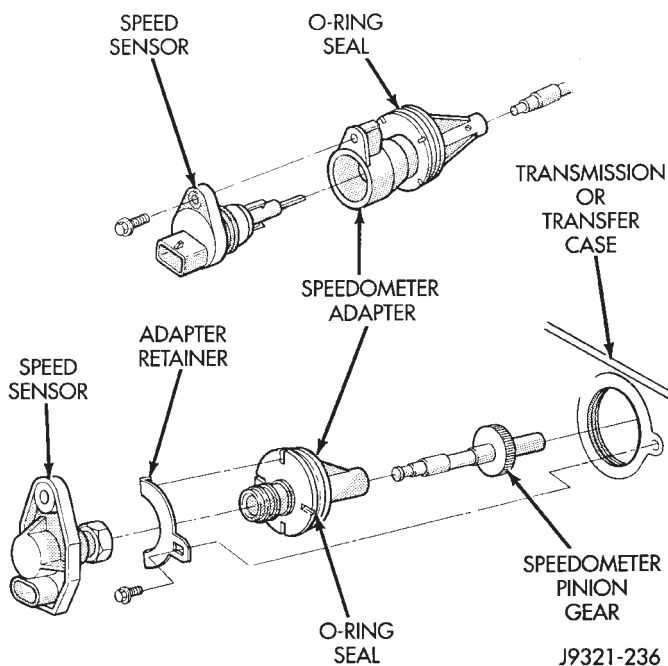

Fig. 7 Speedometer Components
(5) Install speedometer adapter if removed during service (Fig. 7). Then index adapter and install speed sensor in adapter. Refer to In-Vehicle Service section.
(6) Connect electrical wires to speed sensor.